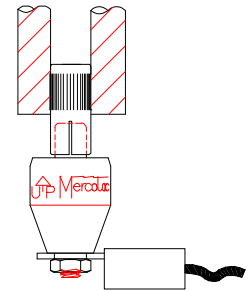

Fig 4 110 Mounting
3. The connectors are reversible (except model 110), so they need not be installed upside down <Fig 4>.